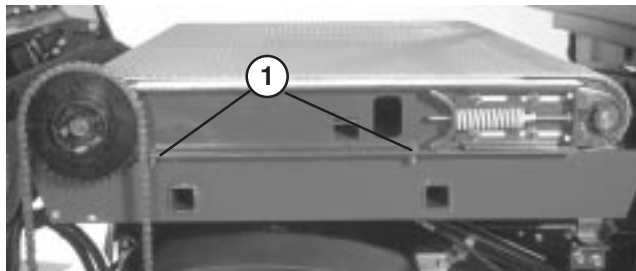

Figure 7
6. Loosen (2) cap screws, washers and nut, on right side of machine, securing slider bed to frame (Fig. 7). Make sure fasteners are loose enough to allow slider bed to be tipped.